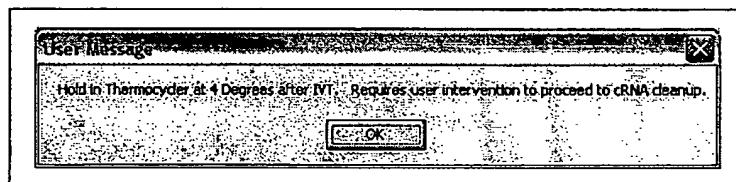

Figure 4.32
9. If the option Hold After IVT was selected, the following message appears after the IVT run (Figure 4.32). An additional user intervention is required to proceed with cRNA purification. To continue select OK (Figure 4.32).